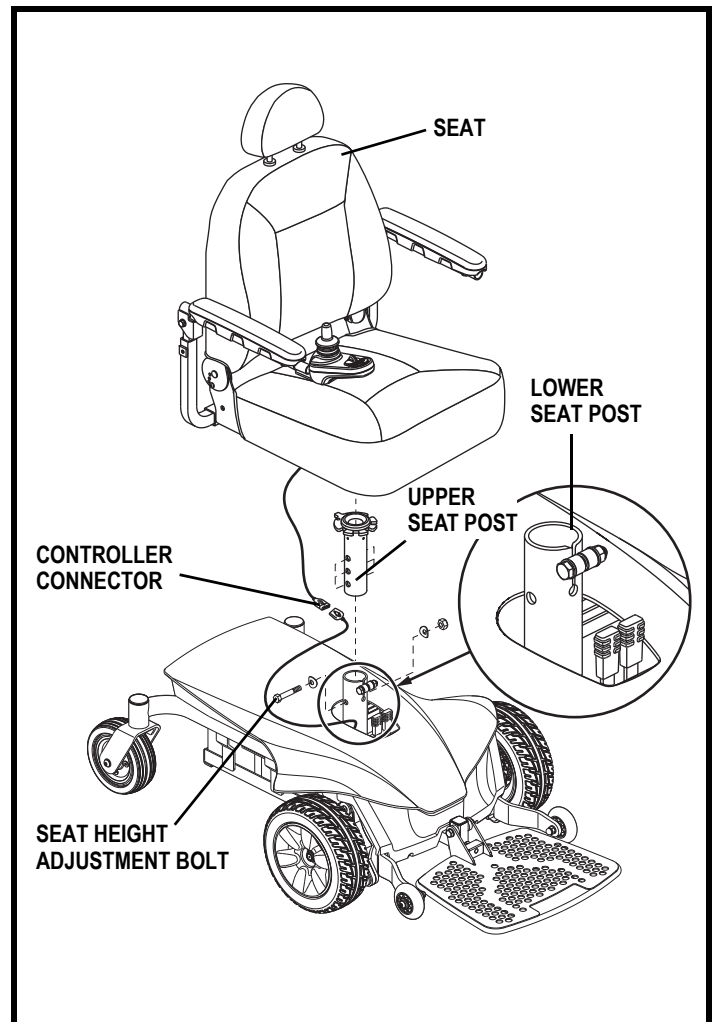

Figure 10. Seat Height Adjustment
3. Disconnect the controller connector from the power base. **See figure 10.**
5. Loosen the hardware at the front of the seat post. **See figure 10.**
6. Remove the seat height adjustment bolt, washers, and nuts from the seat post. **See figure 10.**